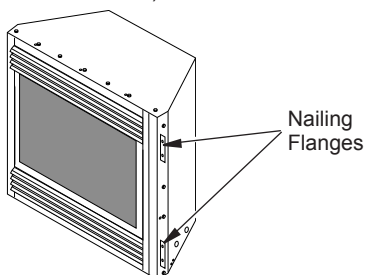

Figure 22 - Location of Nailing Flanges
10. Break off nailing flanges (see Figure 22, page 17) with hammer or pliers if applicable and place fireplace inside mantel opening. See mantel instruction sheet for specific installation instructions. Be careful not to scratch or damage hearth base or cabinet mantel.